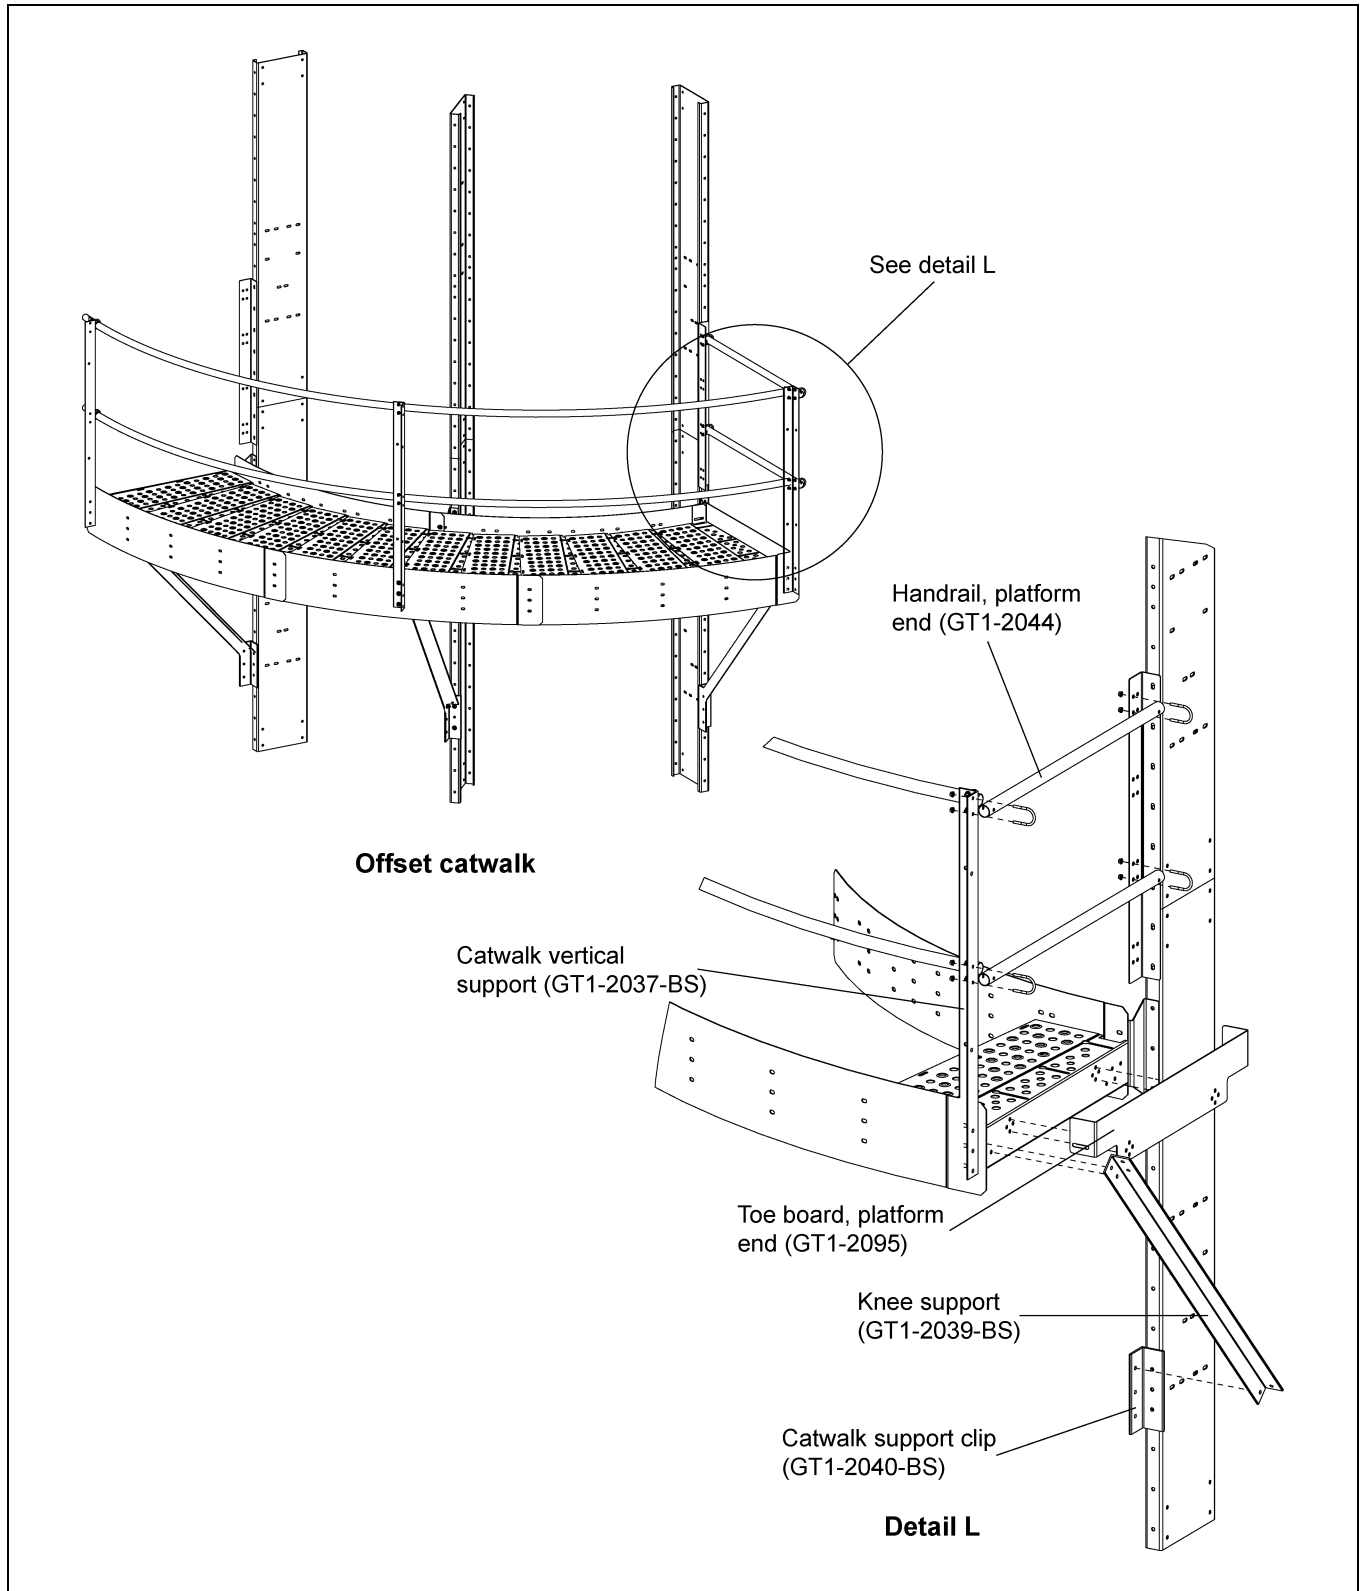
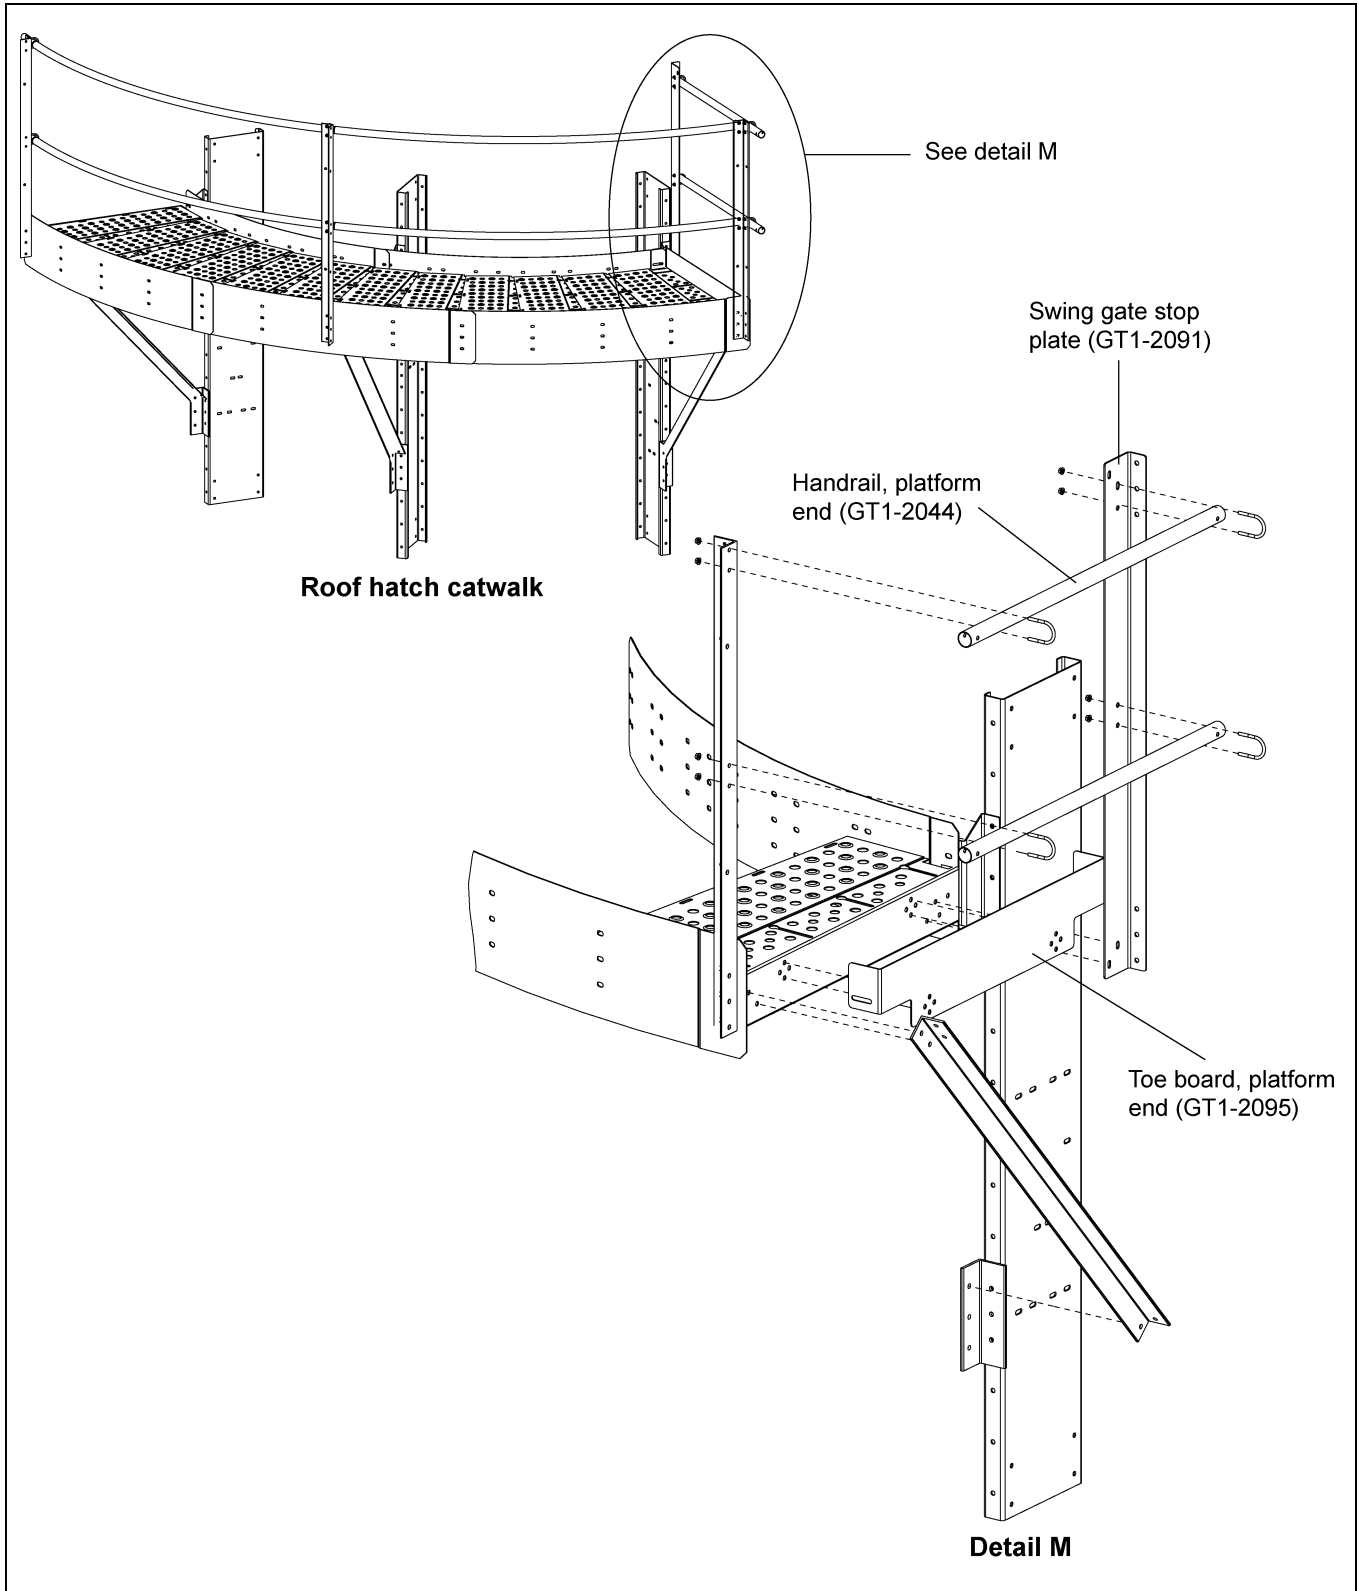

Figure 6V Offset Platform End Handrail (GT1-2044) Installation
Figure 6W Roof Hatch Platform End Handrail (GT1-2044) Installation
3. Install the platform end handrail (GT1-2044) to the catwalk vertical support (GT1-2037-BS) and the platform end plate (GT1-2045). (See *Figure 6V below and Figure 6W on Page 63.*)